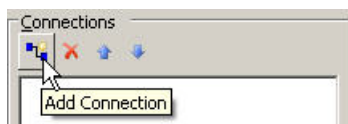

FIG. 121 Connection Manager dialog - Add Connection button
2. Click the **Add Connection** button (FIG. 121):